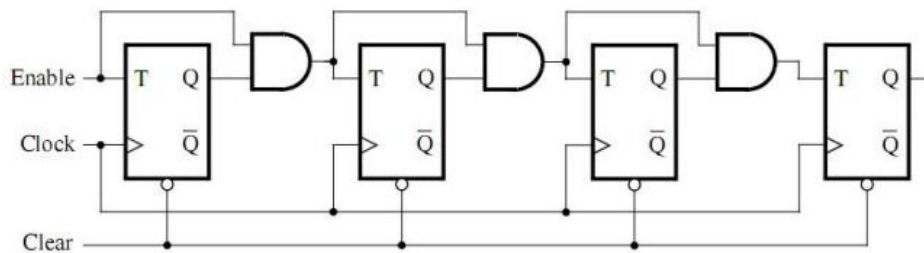

Figure 1. A 4-bit counter.
Consider the circuit in Figure 1. It is a 4-bit synchronous counter which uses four T-type flip-flops. The counter increments its count on each positive edge of the clock if the Enable signal is asserted. The counter is reset to 0 by using the Reset signal. You are to implement a 16-bit counter of this type.
1. Write a VHDL file that defines a 16-bit counter by using the structure depicted in Figure 1, and compile the circuit.